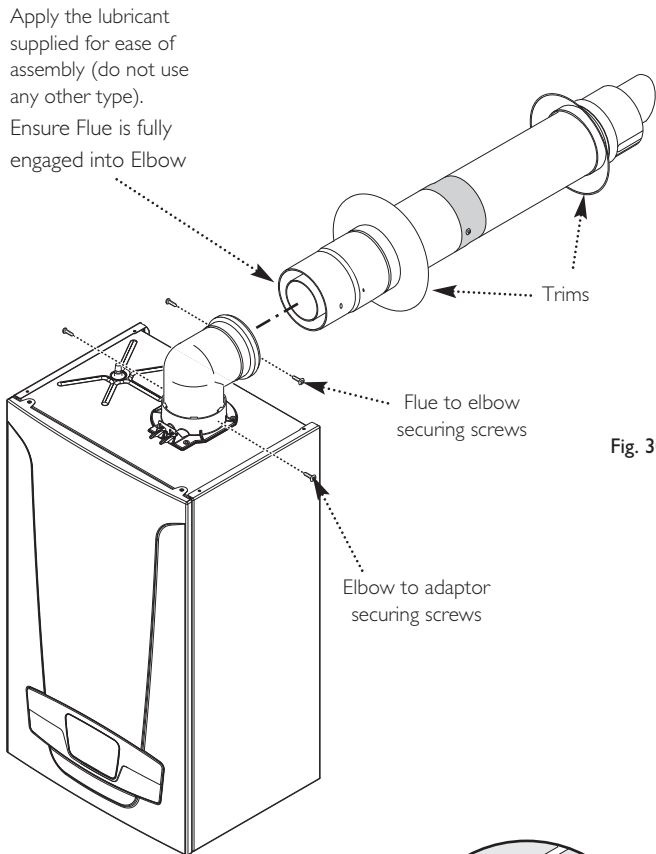
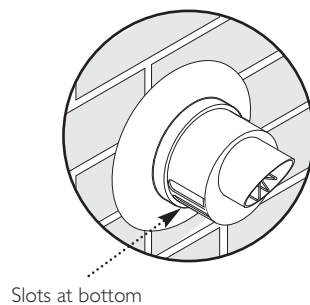

Fig. 30
Fig. 31
14. Draw the flue back through the wall and engage it in the elbow. It may be necessary to lubricate to ease assembly of the elbow and flue (Fig. 30).
15. Ensure that the terminal is positioned with the slots to the bottom (Fig. 31). Secure the flue to the elbow with the screws supplied (Fig. 30).
16. Secure the elbow flue to the boiler adaptor with the screws supplied in the boiler fittings pack (Fig. 30).